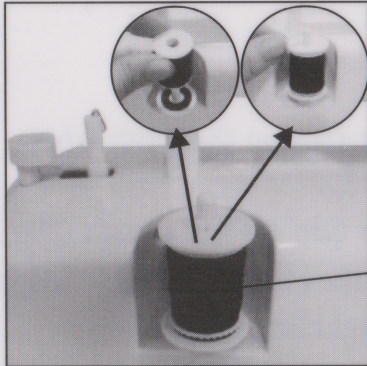

Fig. 11
1. Put a spool of thread on spool pin .(Fig.11)